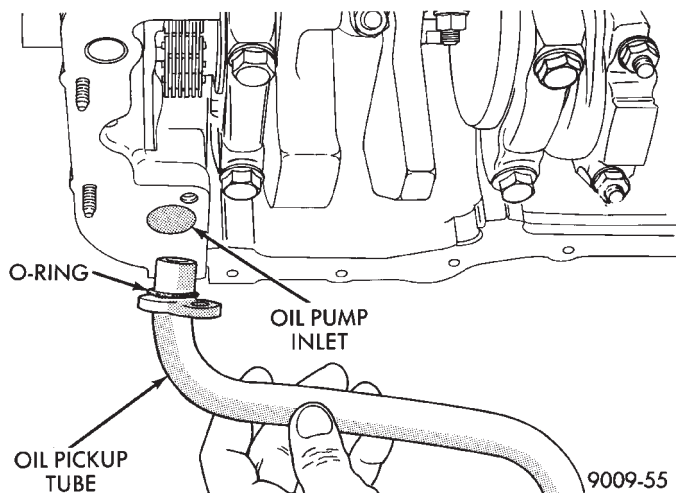

Fig. 2 Oil Pump Pick-up Tube Service
(1) Put a new o-ring on the oil pick-up tube and install into Chain Case Cover tighten screw to 28 N•m (250 in. lbs.) (Fig. 2).